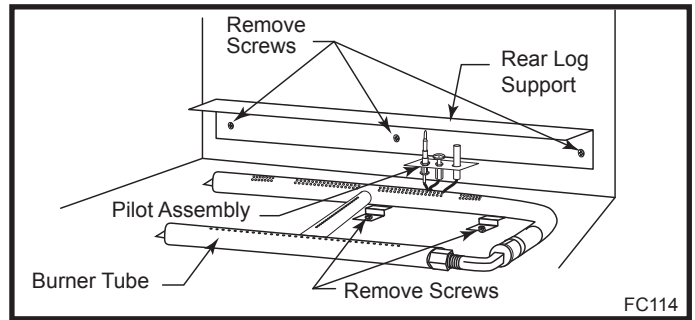

Fig. 69 Remove burner tube and rear log support.
5. Remove the two (2) screws securing the rear log to the back of the firebox. Remove the three (3) screws securing the rear log support to the back of the firebox. (Fig. 69)
6. Remove the two (2) screws securing the burner tube to the burner pan. (Fig. 69)